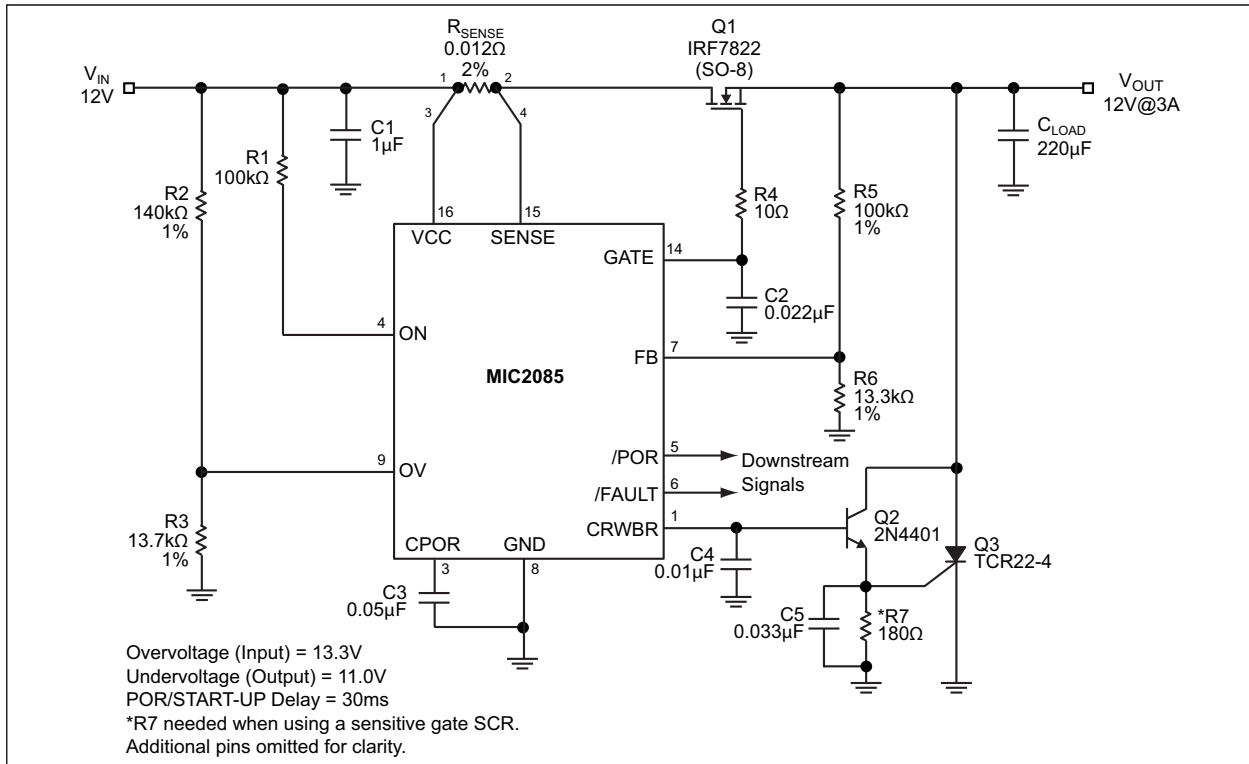

FIGURE 5-1: Undervoltage/Overvoltage Circuit.
For output undervoltage detection, the first consideration is to establish the output voltage level that indicates “power is good.” For this example, the output value for which a 12V supply will signal “good” is 11V. Next, consider the tolerances of the input supply and FB threshold (V_{FB}). For this example, the 12V supply varies $\pm 5\%$, thus the resulting output voltage may be as low as 11.4V and as high as 12.6V. Additionally, the FB threshold has ± 50 mV tolerance and may be as low as 1.19V and as high as 1.29V. Thus, to determine the values of the resistive divider network (R5 and R6) at the FB pin, shown in Figure 5-1, use the following iterative design procedure.
The external CRWBR circuit shown in Figure 5-1 consists of capacitor C4, resistor R7, NPN transistor Q2, and SCR Q3. The capacitor establishes a time duration for an overvoltage condition to last before the circuit breaker trips. The CRWBR timer duration is approximated by the following equation:
See the CRWBR timer pin description in Table 3-1 for more information. A design approach similar to the previous undervoltage detection example is recommended for the overvoltage protection circuitry, resistors R2 and R3 in Figure 5-1. For input overvoltage protection, the first consideration is to establish the input voltage level that indicates an overvoltage triggering a system (output voltage) shutdown. For this example, the input value for which a 12V supply will signal an “output shutdown” is 13.2V (+10%). Similarly, from the previous example:
feedback and overvoltage resistive networks are selected for a 12V application (from Figure 5-1). Many hot swap applications will require load currents of several amperes. Therefore, the power (V_{CC} and Return) trace widths (W) need to be wide enough to allow the current to flow while the rise in temperature for a given copper plate (e.g., 1 oz. or 2 oz.) is kept to a maximum of $10^{\circ}\text{C} \sim 25^{\circ}\text{C}$. Also, these traces should be as short as possible in order to minimize the IR drops between the input and the load.